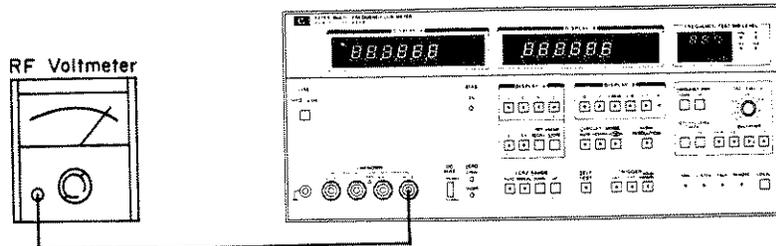

Figure 4-2. Test Signal Level Variable Range Test Setup.
1. Connect BNC to BNC cable to 4274A UNKNOWN HCUR terminal and to RF voltmeter input as shown in Figure 4-2.